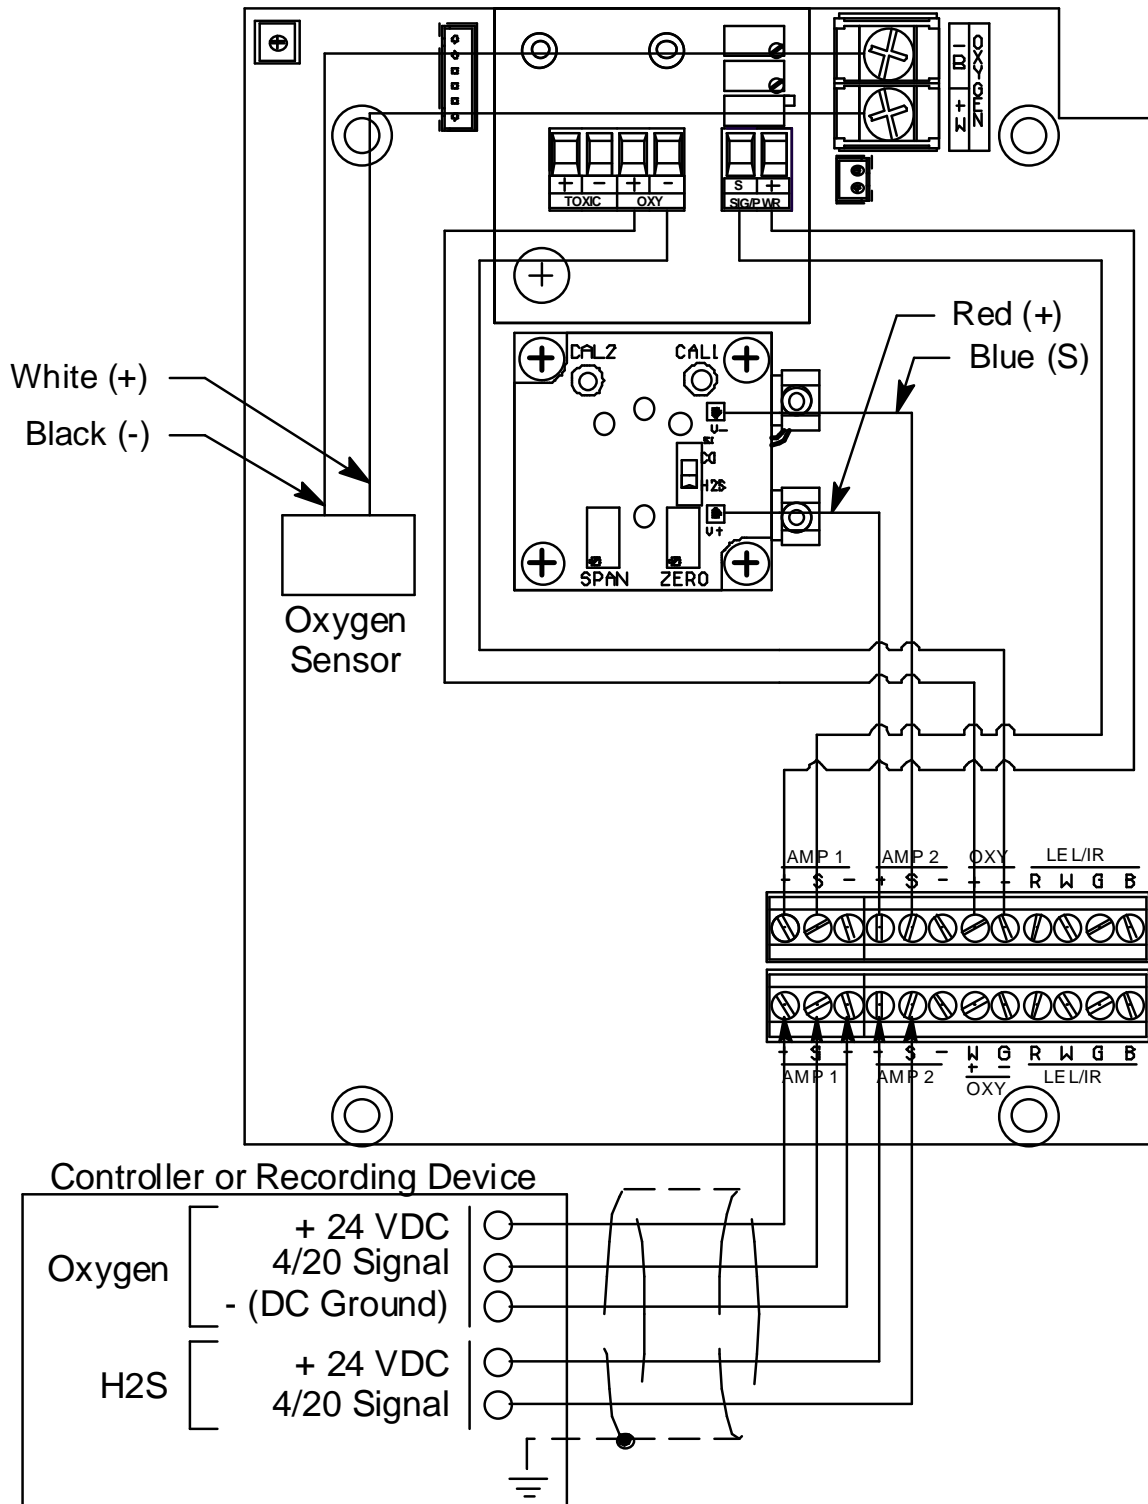

Figure 6: Wiring the Sample-Draw Detector to a Controller
5. Connect the cable to the sample-draw detector’s interconnect terminal strip as shown in Figure 6.
- Connect the wires to the applicable detector/transmitter terminal strip at the controller as shown in Figure 6. Refer to the controller operator's manual and the controller detector head specification sheet for the 35-3001A-09 for detector/transmitter terminal strip connections specific to the controller.